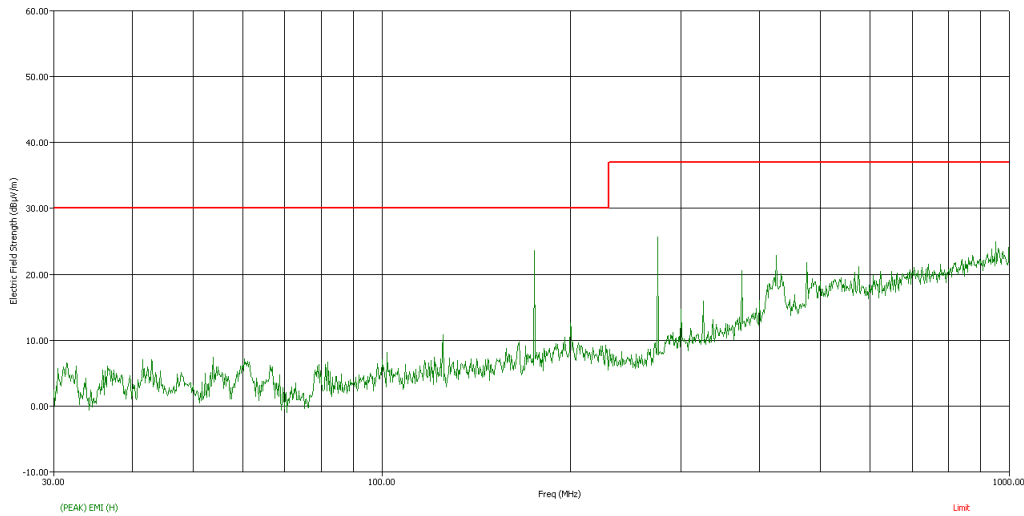
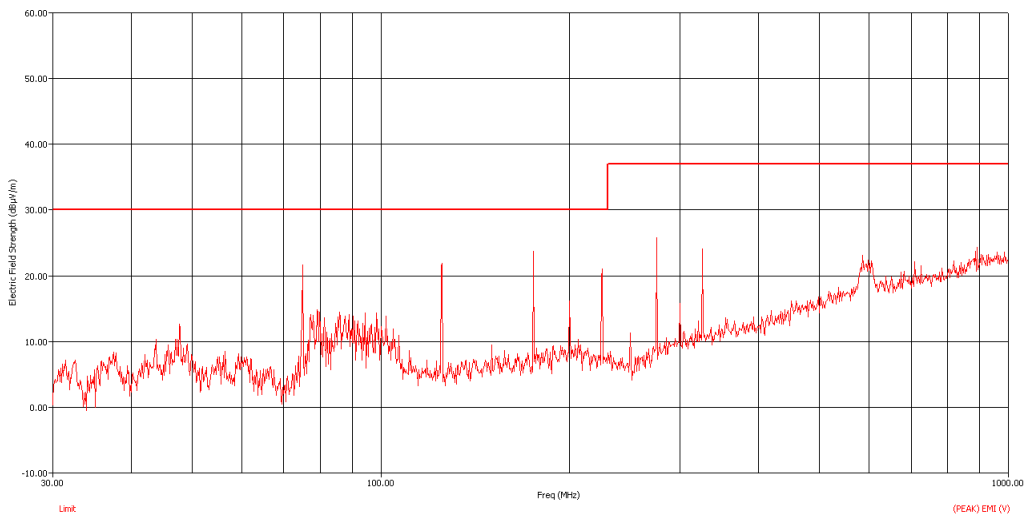

Figure 17. Test 1 Horizontal Polarization
Figure 20. Test 2 Vertical Polarization
1. Measurements are made in Peak Detection Mode for all the scans shown in Figure 17 through Figure 20.
2. Limits line drawn for all the scans shown in Figure 17 through Figure 20 are per Class B emission limits.